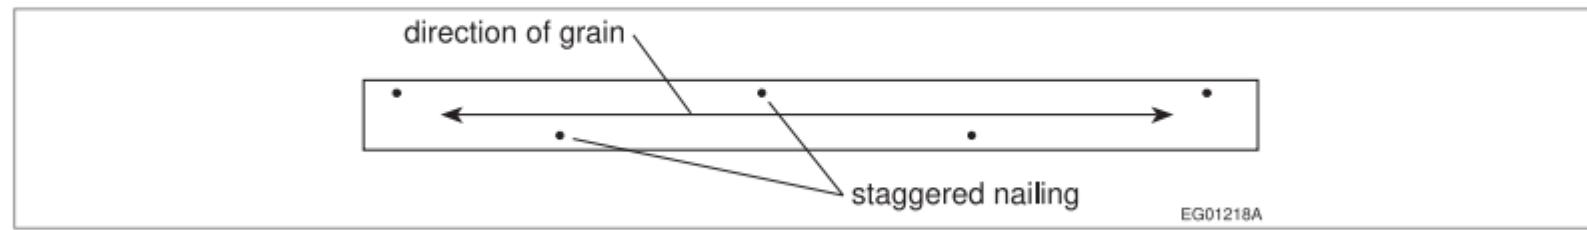

Figure A-9.23.3.3.(1)
A-9.23.3.3.(1) Prevention of Splitting. Figure A-9.23.3.3.(1) illustrates the intent of the phrase "staggering the nails in the direction of the grain."